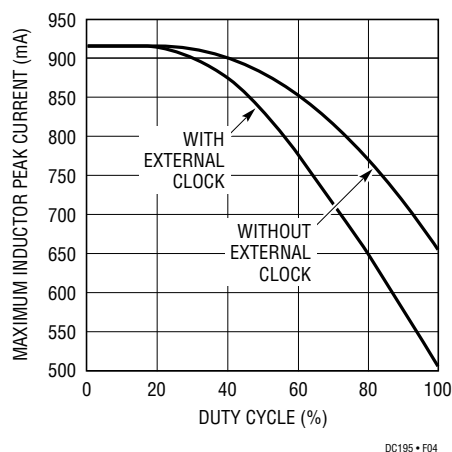

Figure 5. Maximum Inductor Peak Current Vs Duty Cycle
Slope compensation provides stability by preventing subharmonic oscillations. It works by internally adding a ramp to the inductor current signal at duty cycles in excess of 40%. As a result, the maximum inductor peak current is lower for $V_{OUT}/V_{IN} > 0.4$ than when $V_{OUT}/V_{IN} < 0.4$. See the maximum inductor peak current vs duty cycle graph in Figure 5.
0.7V, the LTC1627 begins operating. As the voltage on RUN/SS continues to increase from 0.7V to 1.8V, the internal current limit also increases at a proportional linear rate. The current limit begins at 25mA (at $V_{RUN/SS} \leq 0.7V$) and ends at the Figure 5 value ($V_{RUN/SS} \geq 1.8V$). The output current thus increases slowly, charging the output capacitor. If RUN/SS has been pulled all the way to ground, there is a delay before starting of approximately $310ms/\mu F$, followed by an additional $490ms/\mu F$ to reach full current. $C_{SS} = 0.1\mu F$ on this PC board.